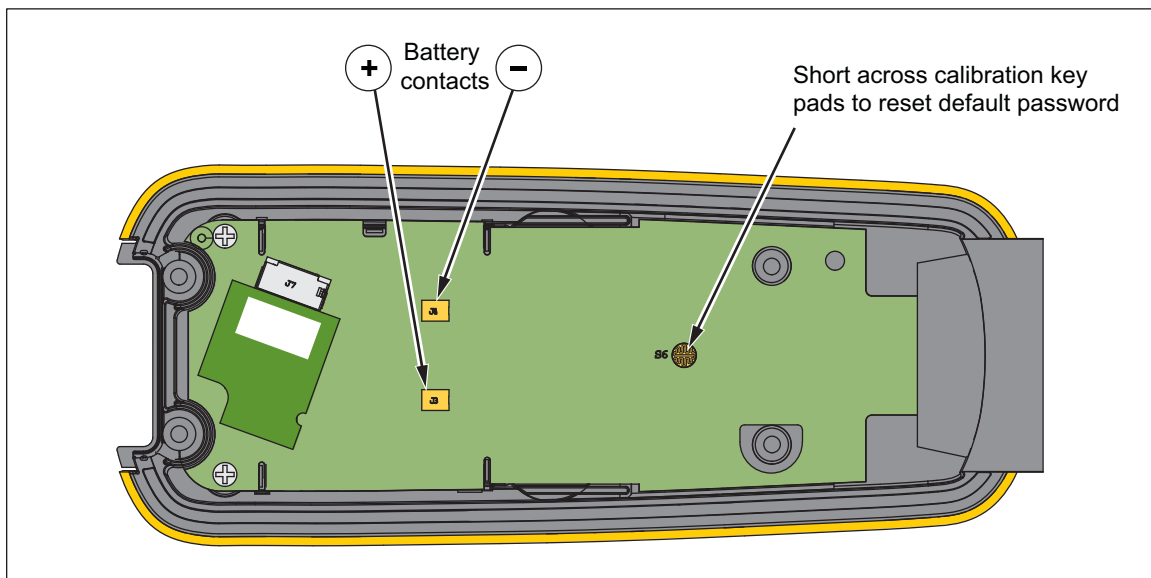

Figure 3. Calibration Password Reset
4. Apply 3.0 V across the battery contacts on the pca. Note the polarity that is shown in Figure 3.
5. Push ① on the front of the Product.
6. Short across the CAL keypad on the pca. See Figure 3. The default password is now restored.